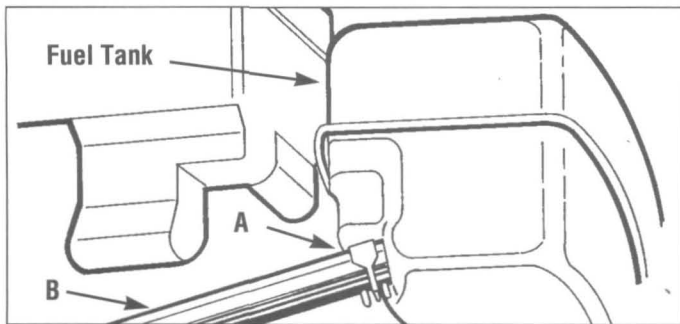

Figure 25: Hose clamp and fuel line.
- Using adjustable pliers, squeeze the tabs on the hose clamp (A in Figure 25) that secures the fuel line (B) to the fuel tank fitting. Slide the clamp a few inches down the fuel line.